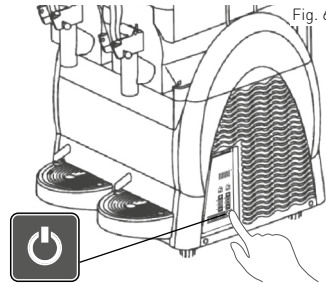

Fig. 6
- Next, press  to switch ON the machine. Press and hold  for 3 seconds to switch to STANDBY mode of the machine when not use. See Fig. 6.